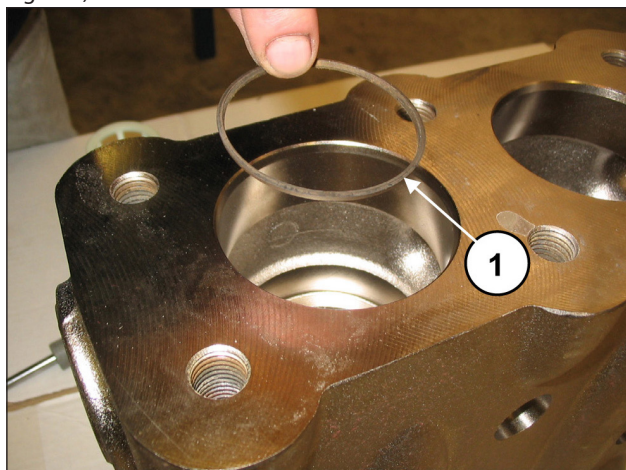

Fig. 113
Insert the back-up ring, exploded view pos. 4 (pos. ①, Fig. 113).